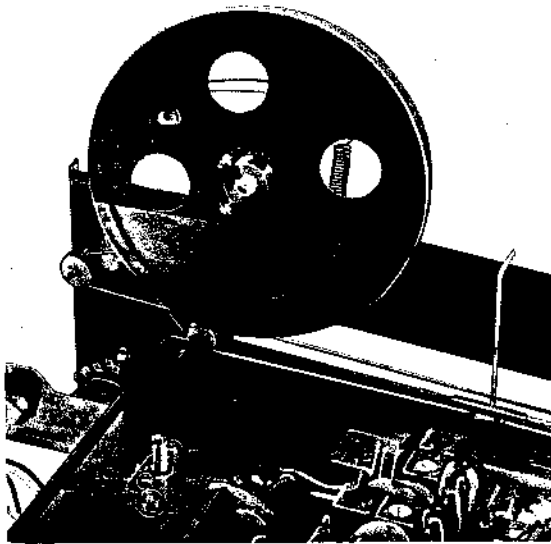

Fig. 2-3 Tuning-capacitor drive-drum removal
4. Remove the tuning-capacitor drive-drum and lean it against the front sub-chassis, then fix it with adhesive tape as shown in Fig. 2-3.
5. Remove the nut and two screws (+K 2.6x4) that secure the front-end block to the chassis, and take out the front-end board. See Fig. 2-3.